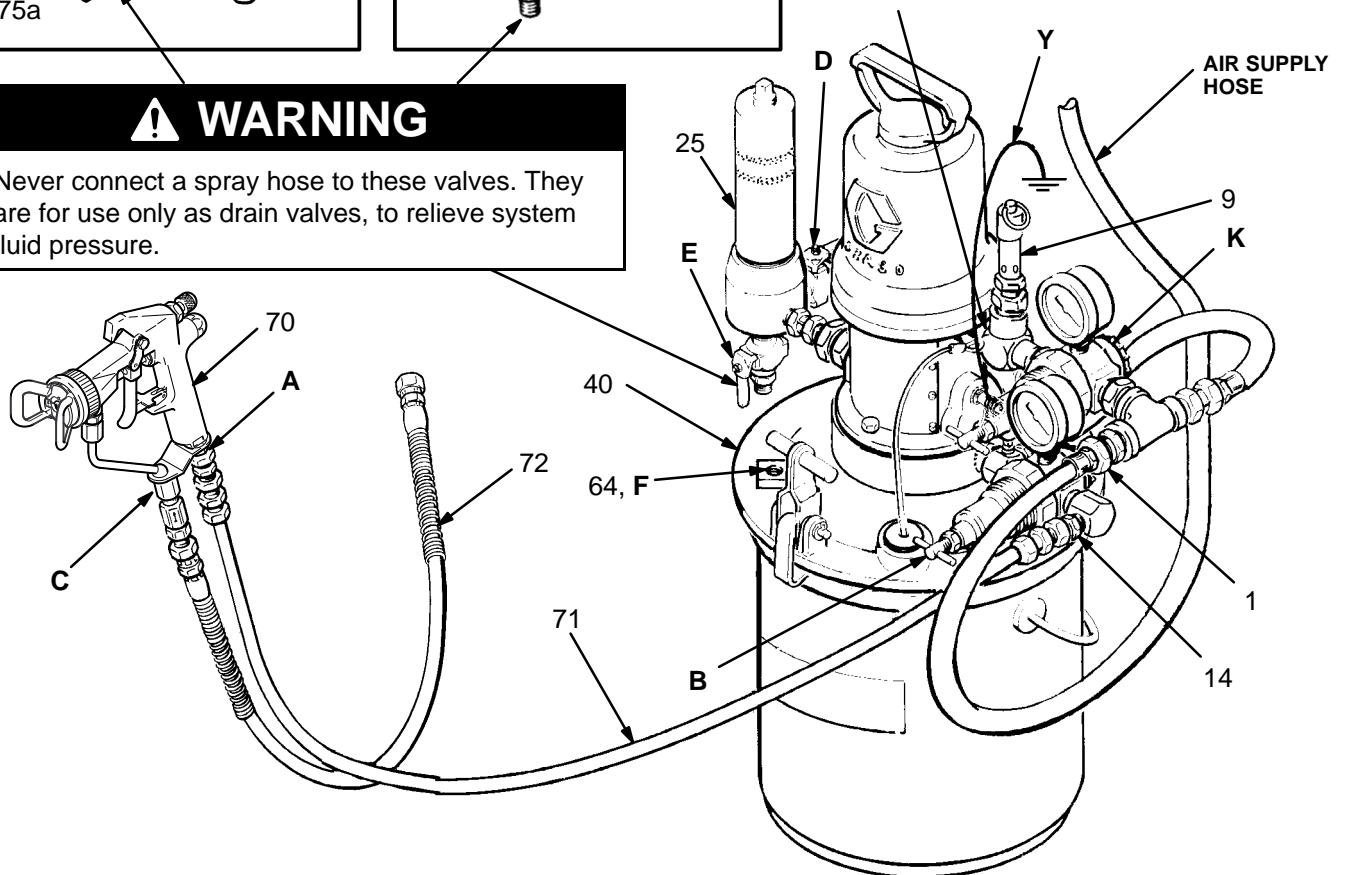

Fig. 2
### All Models (See Fig 2)
## Assembling Sprayer Model 231–015 (See Fig 2)
## Assembling Sprayer Model 230–978 (See Fig 2)
Assemble the fluid regulation kit (75) as shown in Detail A and Detail B of Fig 2. Install the regulator mounting bracket (75k) on the regulator (75f), using the two screws (75p) and lockwashers (75q). Mount the assembled regulator kit on the pail cover with the capscrew (75l), washer (75m) and nut (75n). Connect the regulator hose (75h) between the nipple (75b) at the regulator inlet (G) and the ball valve (D) mounted in the side outlet of the fluid filter (25).